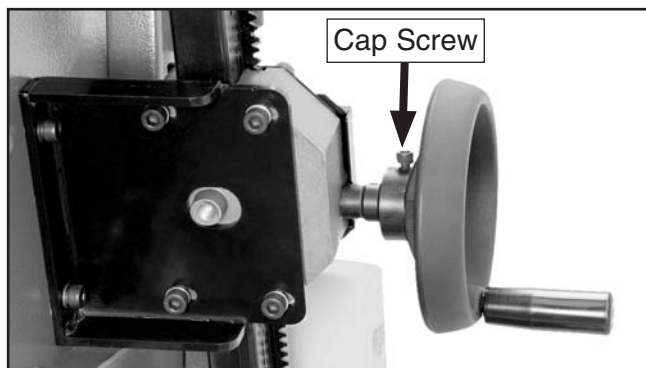

Figure 27. Table tilt handwheel installed.
5. Secure the table tilt handwheel onto the flat part of the handwheel shaft with the included cap screw (see **Figure 27**).